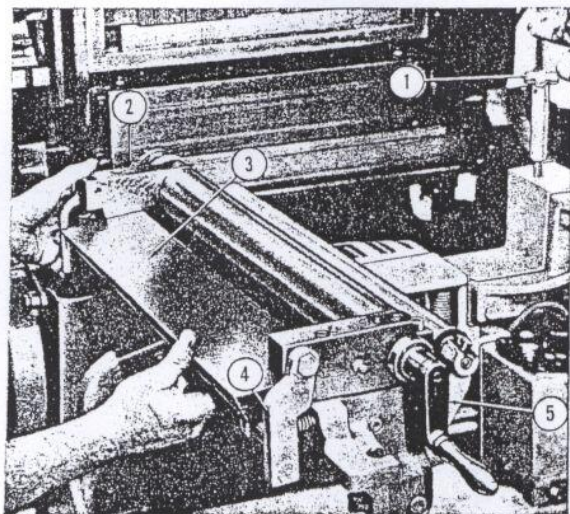

Figure 29—Closing Fountain Blade
(1) HOW TO OPEN AND ADJUST FOUNTAIN BLADE.—The ink fountain may be swung away from the press for facilitating wash-ups and change-overs. To swing fountain out of operating position, swing feeder to open position, loosen fountain lock wheel (1) permitting fountain (2) to be swung away from the press. (See figure 29).
The fountain is equipped with a "drop-blade", (3) figure 29, for facilitating wash-ups. To open the blade, push in fountain latch cam levers, (4) figure 29 and lower blade to open position. To close blade, lift up on blade lifting-edge as shown in figure 29 and latch cam levers securely.
Note: When closing blade, do not grasp blade so that fingers are close to fountain roller. Hold blade as shown in figure 29. Failure to comply with this warning may result in injury to the fingers.
blade. When adjusting the fountain screws for uniform ink flow, start at the center and work toward the ends, thereby preventing blade buckling. A crank, (5) figure 29, attachable to either end of the fountain roller, is provided for turning the fountain roller.